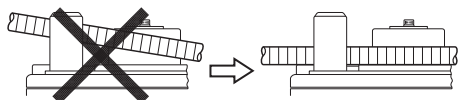

Fig. 46
- Place the rebar on the center plate and set it so that it is horizontal with the turntable surface. If the side that is to be bent is set inclined upward, the rebar can come loose from the bending roller while bending causing it to fly off. (Fig. 46)